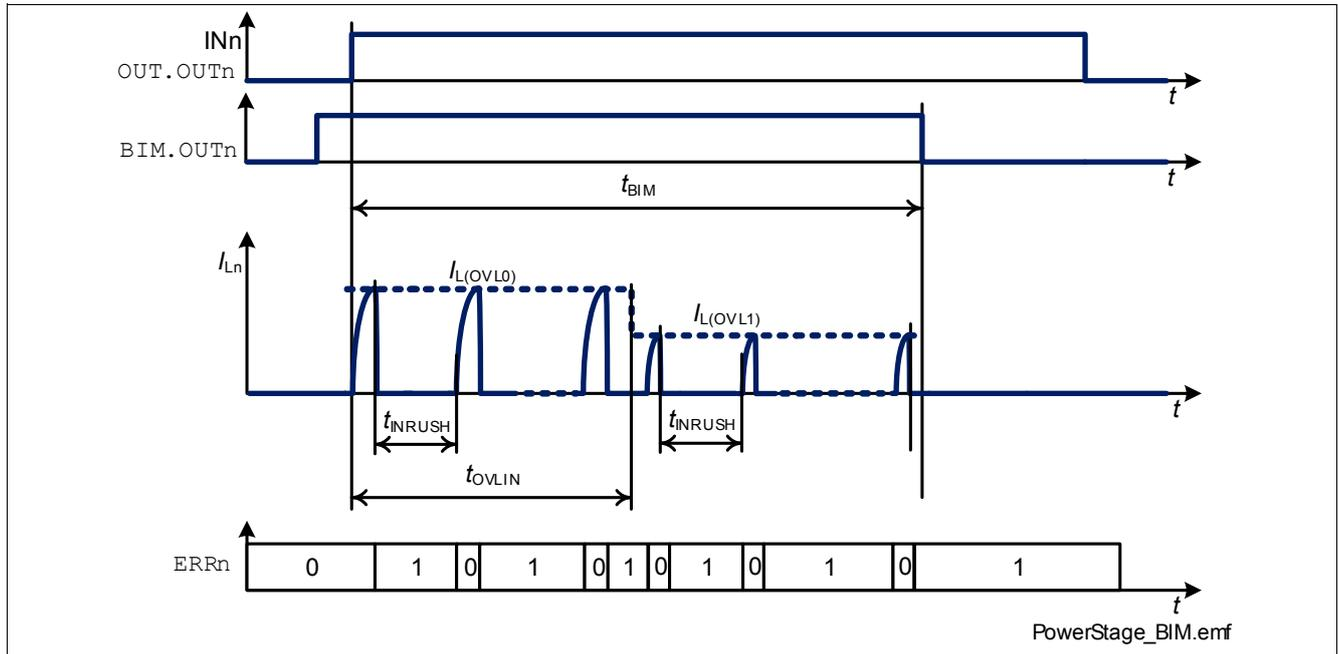
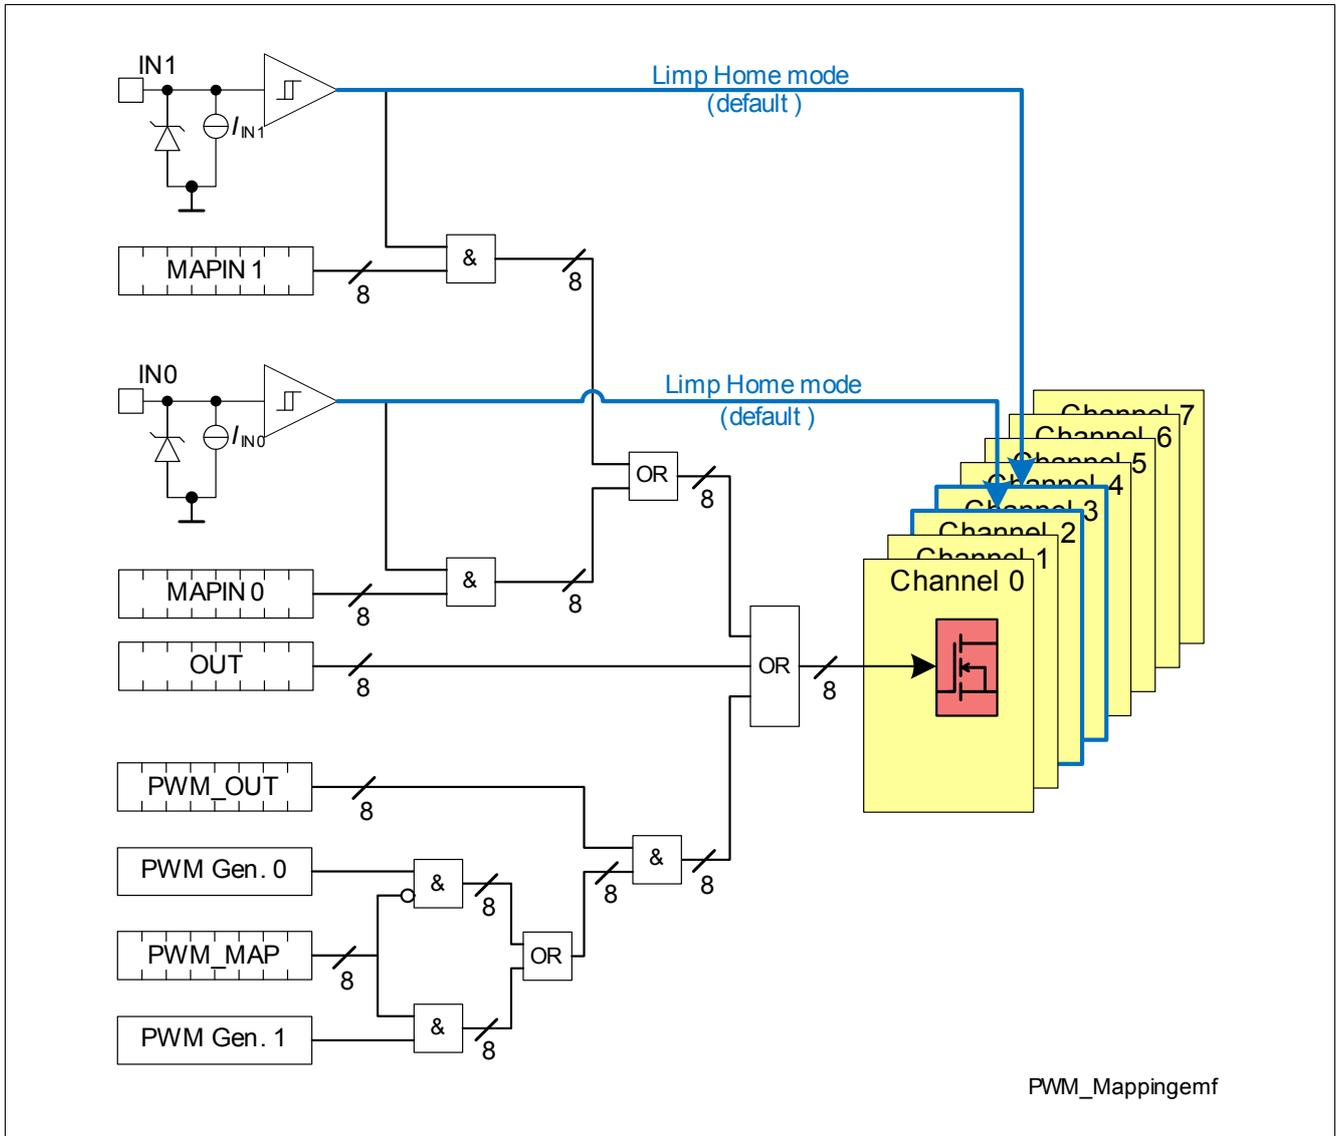

Figure 17 Bulb Inrush Mode (BIM) operation
Figure 18 PWM Generator Mappings
If the corresponding bit **BIM.OUTn** is set to “1”, in case the channel reaches the overload current threshold or the overtemperature threshold and latches OFF, it restarts automatically after a time  $t_{\text{INRUSH}}$ , allowing the load to go out of the inrush phase. A time diagram is shown in Figure 17. As shown, the counter starts when the channel is switched ON. Every channel switch OFF (independently from the entity controlling the channel - see Figure 18 for further details) resets the bit **BIM.OUTn** to “0”.
**Figure 18** expands the concept shown in **Figure 9** adding the PWM Generators.